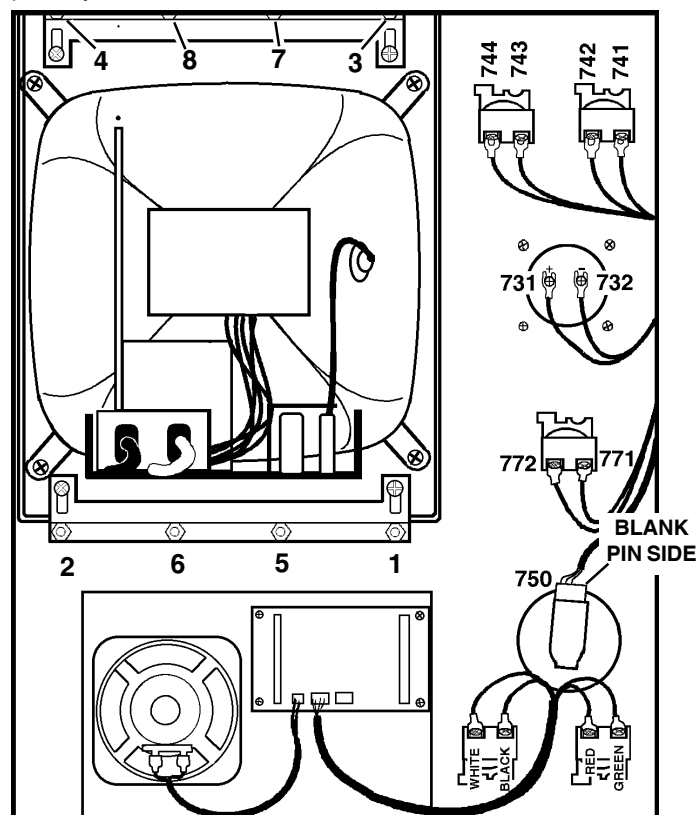

Fig. 5-1 Interior of control panel (rear).
7. Replace by sliding the new assembly onto the eight bolts (four each on top and bottom). Starting with the bottom right, place the washers and hex nuts on the bolts to hold in place. Refer to Fig. 5-1 for the order of replacement.
3. Disconnect all leads to the switch's connectors. Ensure all leads are properly marked for reconnecting later. Refer to Fig. 5-1 for proper locations.
6. Reconnect all leads to the correct switch. Refer to Fig. 5-1 for proper location(s).
3. Disconnect the two leads at the back of the **spindle load meter assembly**. Ensure the two leads are properly marked for reconnecting later. Refer to Fig. 5-1 for locations.